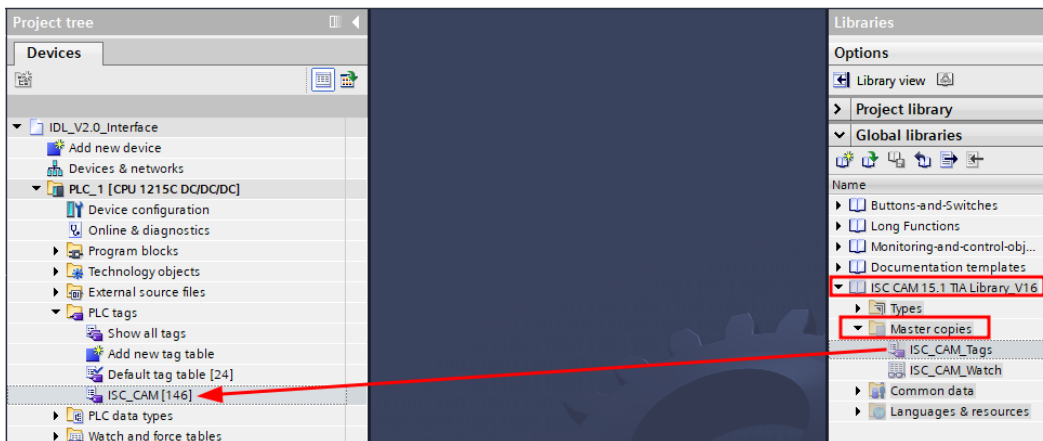

Figure 16: Adding ISC CAM PLC Tags to Project
35. After the upgrade or opening of the library file. The library “TIA_LIBRARY_15.1_ISC_CAM_v2” shall be listed in the “Global Libraries,” Figure 16.
36. Open “TIA_LIBRARY_15.1_ISC_CAM_v2” Library, Figure 16.
37. Open “Master copies,” Figure 16.
38. The “ISC_CAM_Tags” can drag and drop into PLC tags of the project, Figure 16.